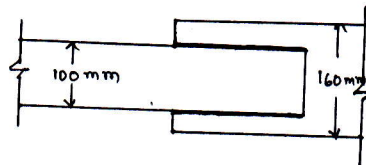

Fig Q3(b)
- b. Design a suitable longitudinal fillet weld to connect the plates as shown in Fig Q3(b) to transmit a pull equal to the full strength of small plate. Plates are 12mm thick with grade Fe 410 and welded connection.